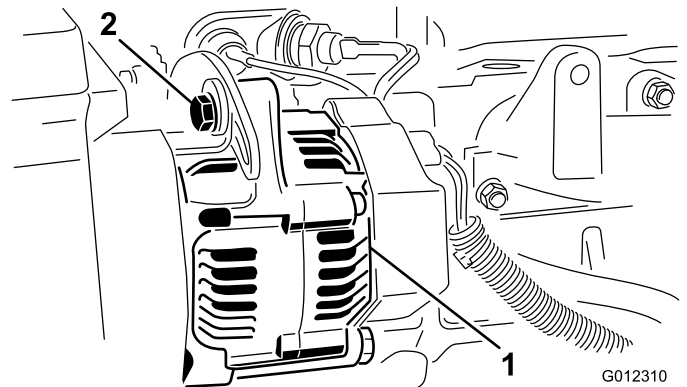

Figure 41
- If the deflection is not 3/8 inch (10 mm), loosen the alternator mounting bolts (Figure 41). Increase or decrease the alternator belt tension and tighten the bolts. Check deflection of belt again to ensure that the tension is correct.